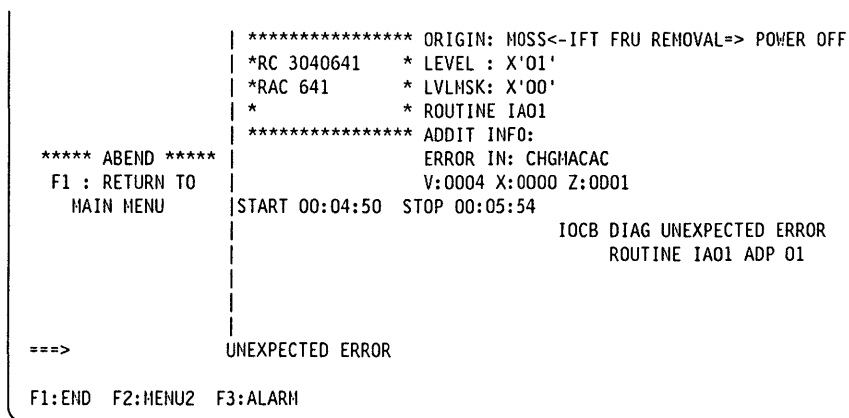
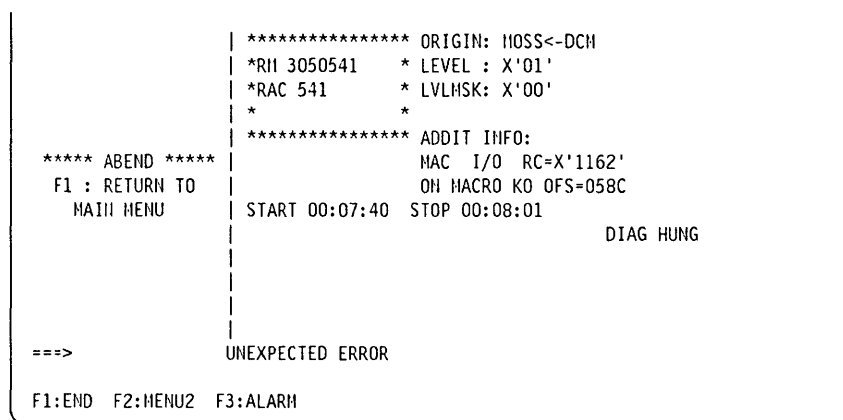

Figure 3-14. Diagnostic Unexpected Error Display Screen
Figure 3-15. DCF Unexpected Error Display Screen
2. Diag/DCF unexpected error (see Figure 3-14 on page 3-21 and Figure 3-15 on page 3-22), when an error occurs anywhere in an area which is not under test.